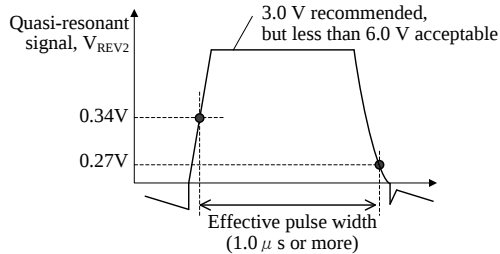

Figure 9-12 The effective pulse width of quasi-resonant signal
- The effective pulse width of quasi-resonant signal is $1.0 \mu s$ or more (refer to Figure 9-12)
power supply specification, $V_{REV2} < 6.0 \text{ V}$ (Absolute maximum rating of the BD pin) and the effective pulse width of quasi-resonant signal is $1.0 \mu\text{s}$ or more (refer to Figure 9-12).